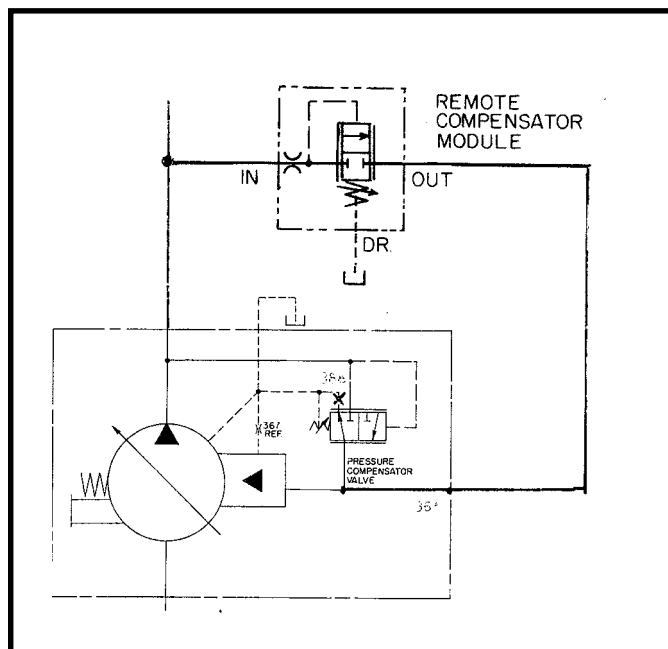

Figure 6. “CH” control circuit with remote pressure control.
Refer to figure 6. Remote operation of “CH” controls can be accomplished by installing an Oilgear remote compensator module at the location shown in the control circuit and plugging compensating spool drain with a #10-24 set screw (388). Use L51542 for units rated continuously for 3500 psi (241,4 bar) or less, use L51542-1 for units rated above 3500 psi (241,4 bar).